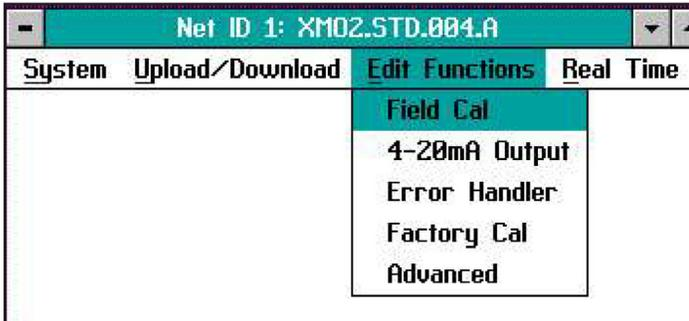

Figure 13: Field cal window
3. Click on the Field Cal option. In the Field Cal window (shown in *Figure 13* on *page 20*), click on the Configure Cal button.
The following three buttons appear at the right of all menu windows (see *Figure 13* on page 20):
When you select the Field Cal option, a window similar to the one in *Figure 13* below opens.
Note: Clicking on the Next Item/Enter button selects the option listed on the status line above the option buttons (Perform Cal in *Figure 13* above). The option listed on the status line in any window is the option that was chosen the last time that menu was used.